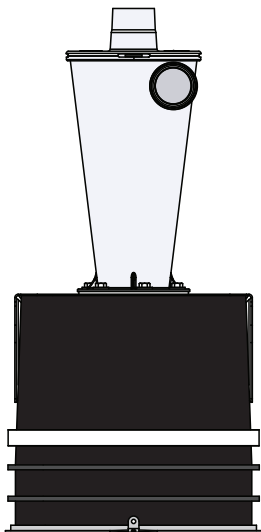

FIG. 13a
Put a Silicone Band (I) onto the Bucket (G) [FIG. 13a].